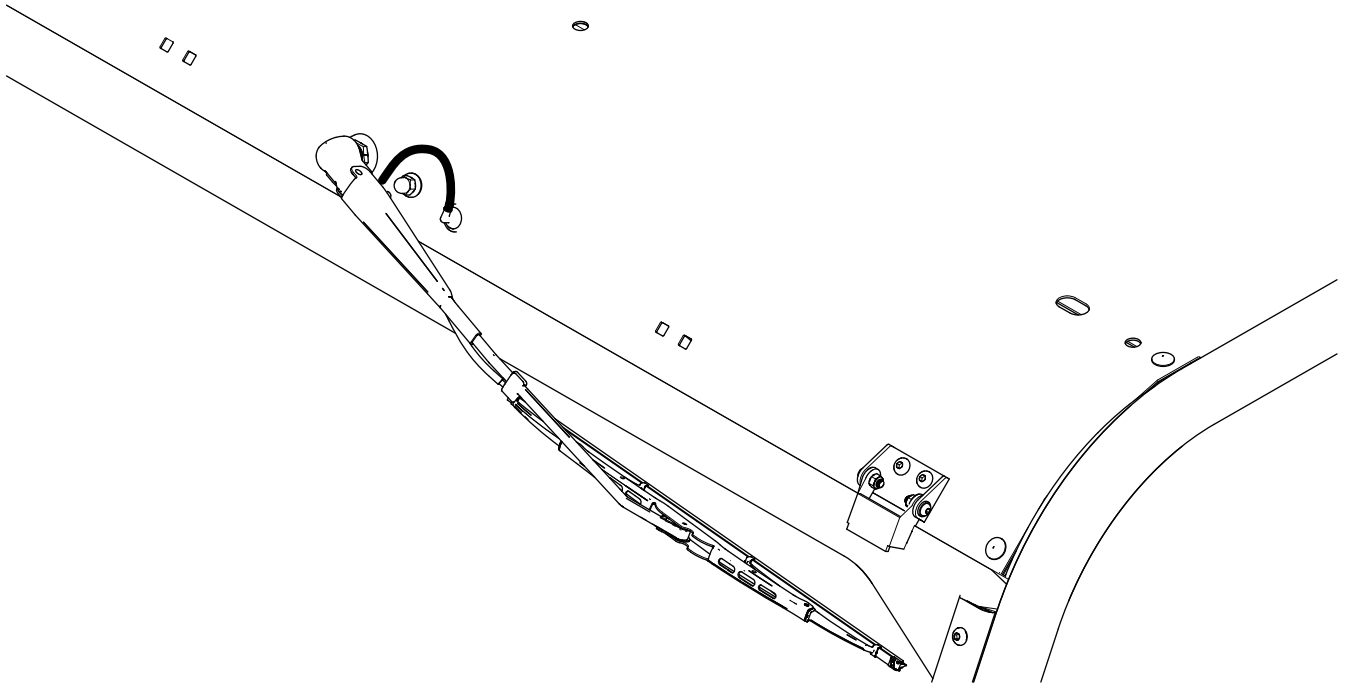

Figure 12
5. Attach the hose line on the wiper arm to the bulkhead fitting (Figure 12).